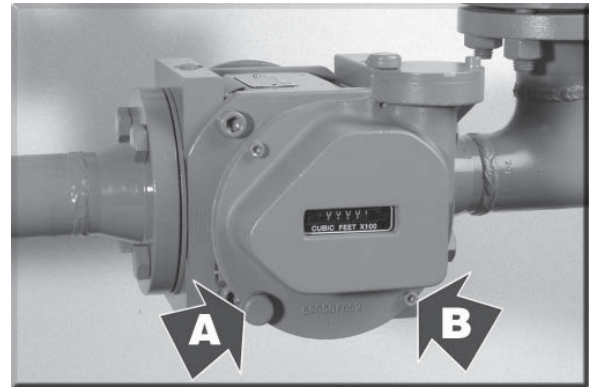

Fig. 1 Security Cap Seal & Mounting Screws
- Remove security seal cap (Fig. 1 "A"), PN 52548P013, from register cover mounting screw with pliers.
- Remove three M6 register cover mounting screws (Fig. 1 "B"), p/n 52533P020, holding the register cover to the case cover using 5mm Allen wrench.
- Mount register cover securing with three M6 screws (Fig. 1 "B"), p/n 52533P020, placing new security seal cap on lower left screw (Fig. 1 "A").